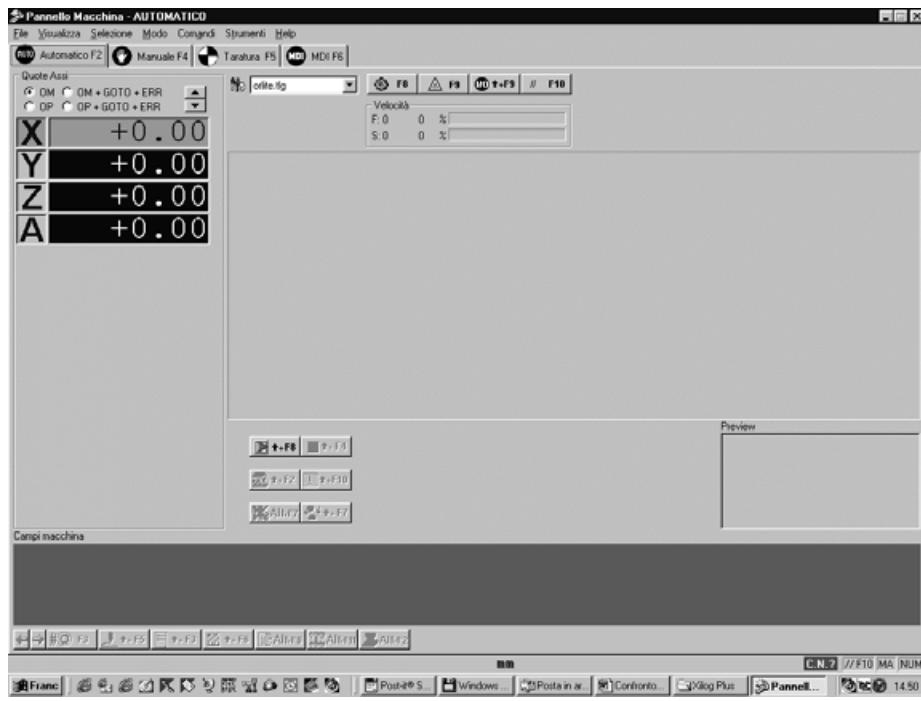

Fig. 4.4
- when the screen page shown in fig. 4.4 appears, you can start the machine by pressing the white pushbutton R which lights up.